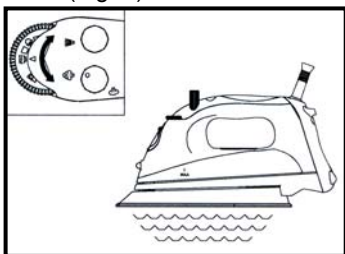

Fig. 2
- Place the iron on its heel on a stable, protected surface and allow the iron to heat for **approximately two (2) minutes** or until the temperature settings on the right side of the LED display panel have stopped flashing.
- Turn the variable steam control dial to the right to increase the amount of steam. When using extra steam, the iron uses more water and it may be necessary to fill the water tank more often. (Fig. 2)